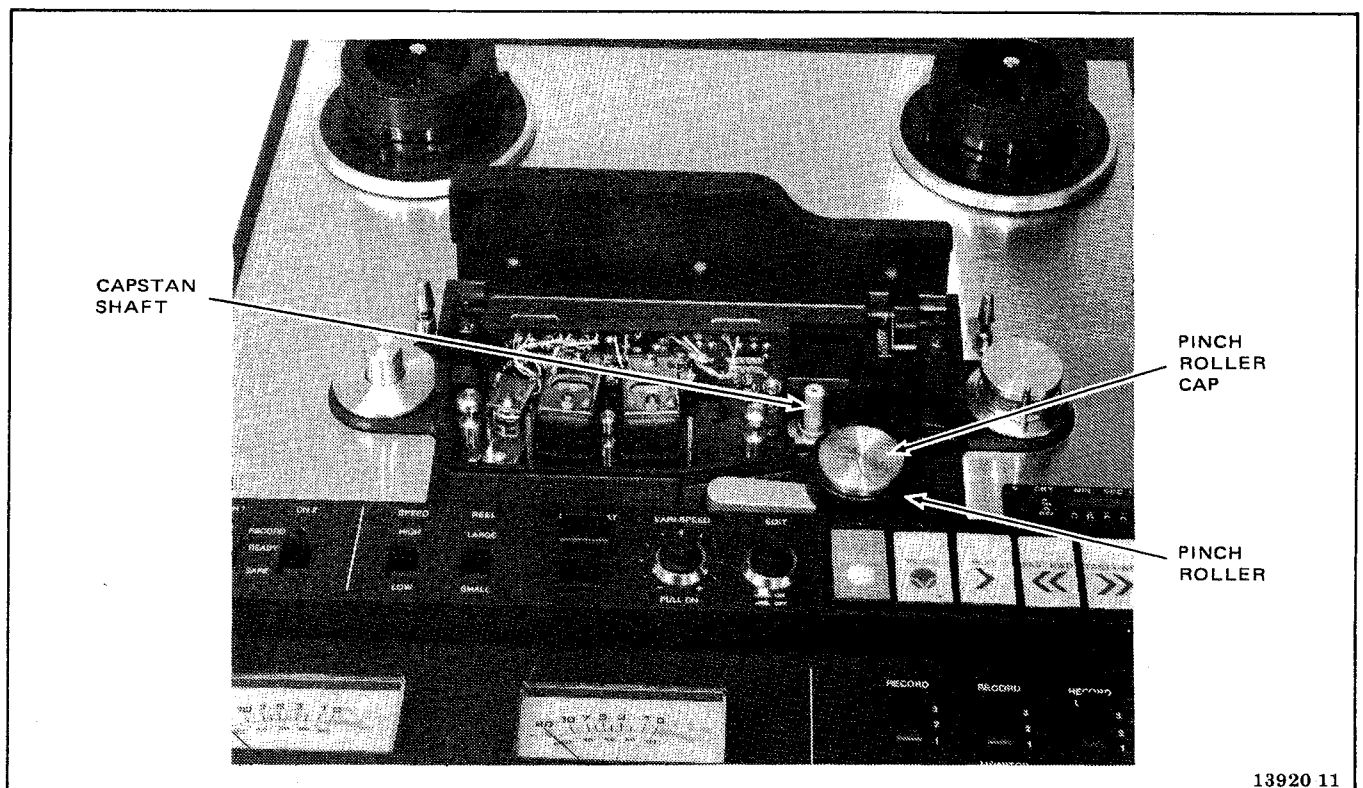

Figure 5-1. Lubrication Points
1. Lift the head housing and unscrew the shiny cap on the pinch roller (see Figure 5-1) by turning it counterclockwise with your fingers.